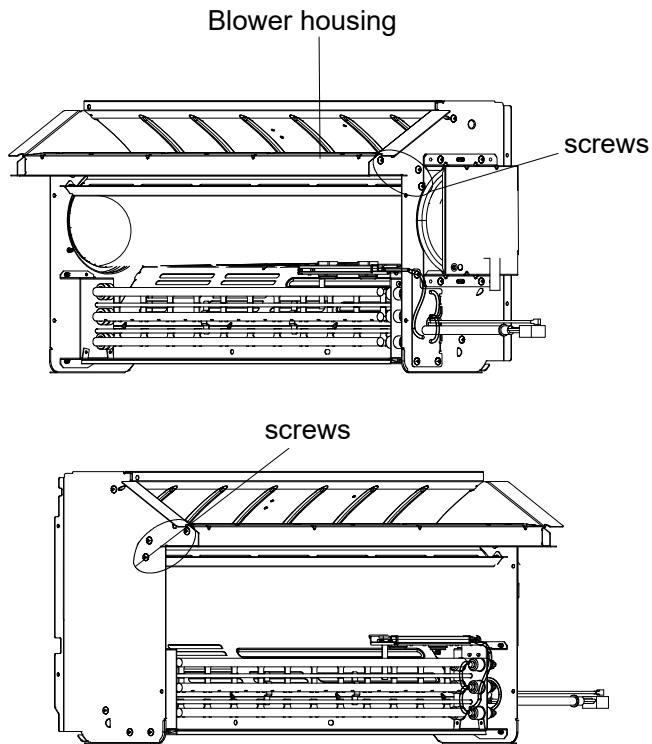

Figure 522
10. Remove air duct sub assembly. See Figure 522.